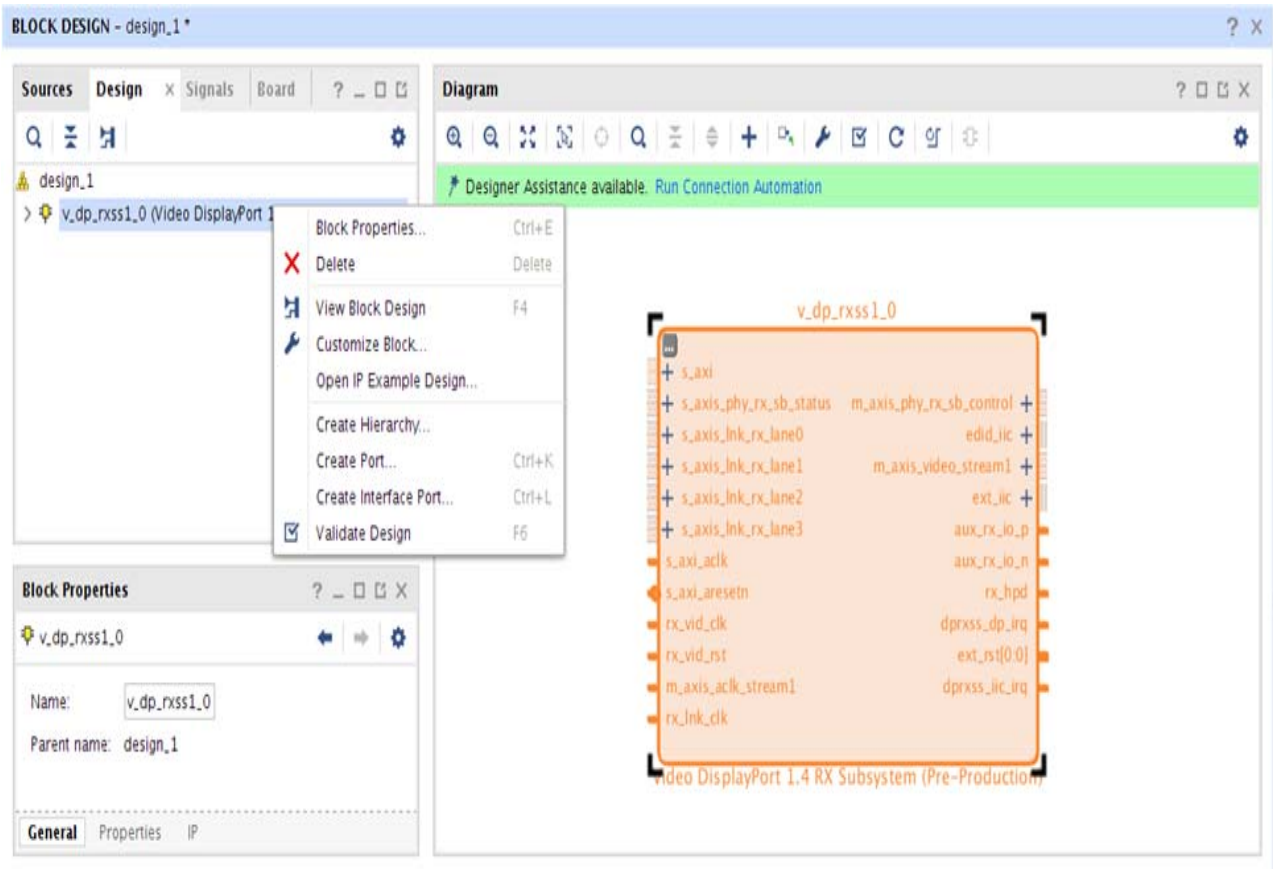

Figure 5-7: Open IP Example Design
- Right-click the **DisplayPort Subsystem** IP under Design source in the **Design** tab and click **Open IP Example Design** (Figure 5-7).